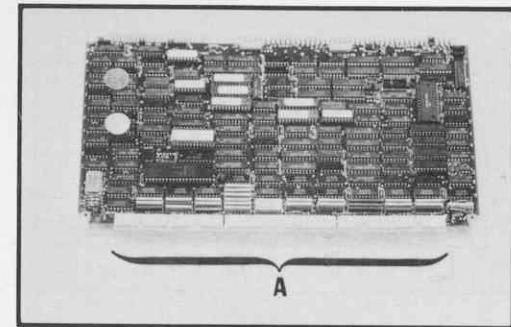

Figure 24 Xylogics 450 Disk Controller
- 4.1** Locate the Xylogics 450 disk controller included in your Upgrade Kit, as shown in Figure 24. If you did not receive a Xylogics 450, contact Sun Field Support at (415) 960-1300 immediately.